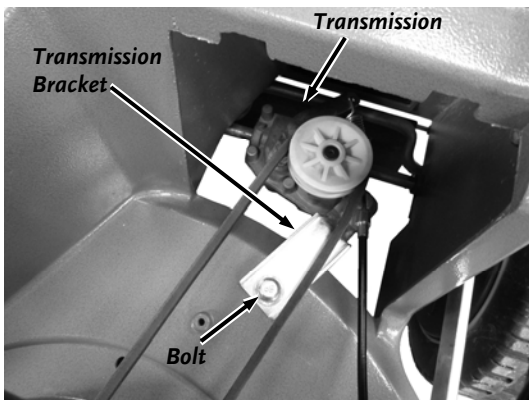

Figure 19
2. Remove the Transmission Bracket Bolt using a 12mm Wrench (**Figure 19**).